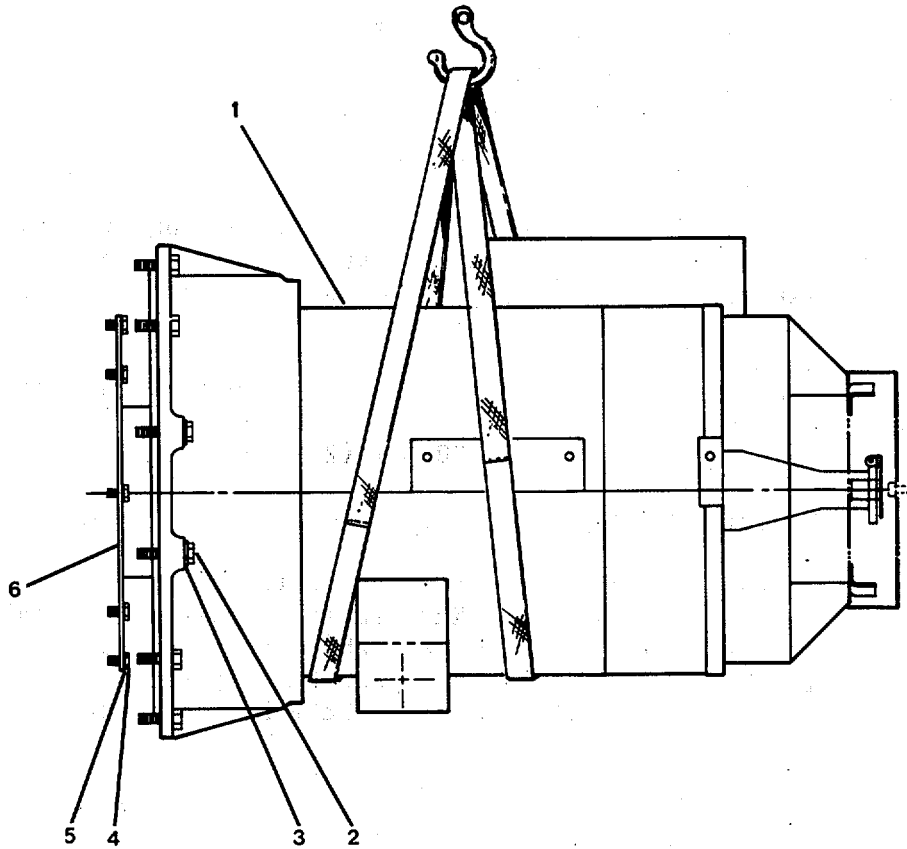
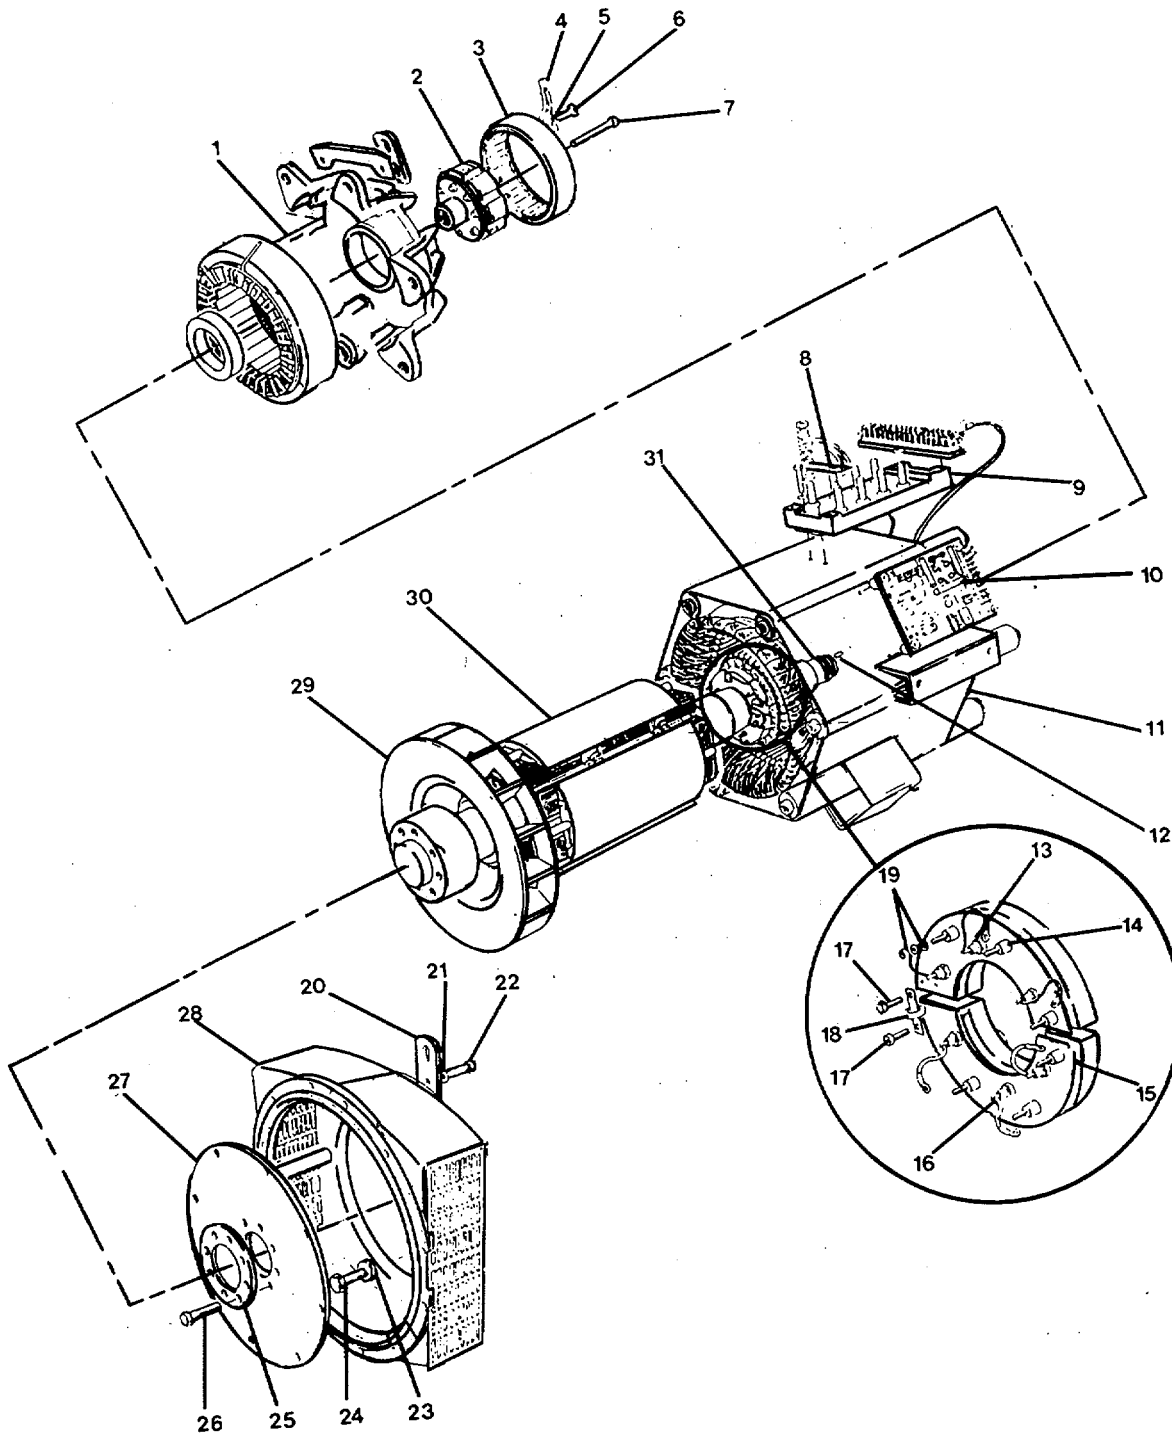

FIGURE 3-26. Generator Assembly Removal.
FIGURE 3-27. Generator Repair.
3-15. **Replace/Repair Generator Assembly.** (FIGURES 3-26 through 3-36)
REMOVALRemove Generator. (FIGURE 3-26)
- (a) Remove machine bolt (7, FIGURE 3-27) from end of generator shaft (31).
- (b) Remove capscrew (6), lockwasher (5), and clamp (4).
- (c) Remove stator (3) and rotor (2) from excitor stator (1).
- (d) Remove machine key (12) from end of shaft (31).
- (e) Remove terminal link (8) from main terminal panel (9).
- (f) Remove voltage regulator (10).
- (g) Remove machine screws (26) and pressure plate (25).
- (h) Remove capscrews (24), lockwashers (23), and coupling disk (27) from adapter (28).
- (i) Remove capscrew (22) and lockwasher (21) securing adapter to pad eye (20). Remove adapter (28).
- (j) Remove fan (29) and rotor assembly (30) from stator assembly (11).
- (k) Remove reverse polarity diode (13) and reverse rectifier (14).
- a. Install varistor (18, FIGURE 3-27) and secure with capscrews (17).
- b. Install forward rectifier (15) and forward polarity diode (16); torque nut and lockwasher (19) to 42 in-lb. (4.74 N-m).
- c. Install reverse polarity diode (13) and reverse rectifier (14); torque nut and lockwasher (19) to 42 in-lb. (4.74 N-m).
- d. Install rotor assembly (30) and fan (29) into stator assembly (11).
- e. Install adapter (28) to pad eye (20), secure with capscrew (22) and lockwasher (21).
- f. Install coupling disk (27) and secure with capscrews (24) and lockwashers (23).
- g. Install pressure plate (25) and secure with machine screws (26).
- h. Install voltage regulator (10).
- i. Install terminal link (8) on main terminal panel (9).
- j. Install machine key (12) in end of shaft (31).
- k. Install rotor (2) and stator (3) in exciter stator (1). Secure to exciter stator with clamp (4), lockwasher (5), capscrews (6), and bolt (7).
- m. Lift the generator into position so that the mounting holes in the coupling disc (27, FIGURE 3-27) and adapter (6, FIGURE 3-26) slide over the guide studs.
REPLACEMENT (FIGURE 3-26)